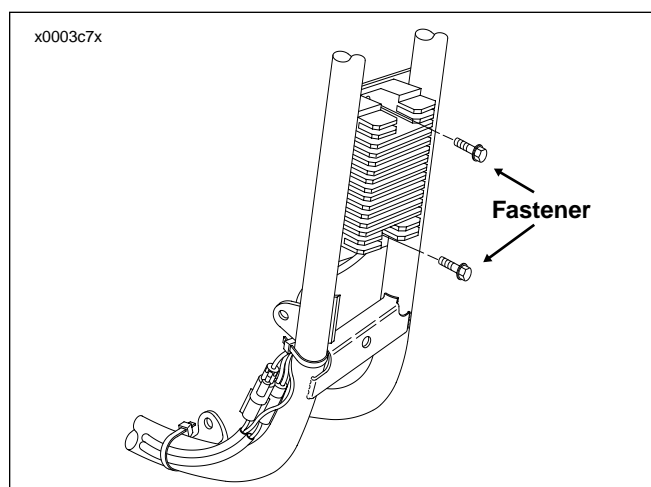

Figure 1. Voltage Regulator
1. See Figure 1. Back fasteners out one full turn.